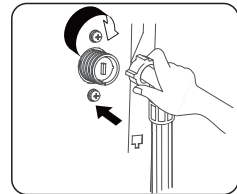

Fig. 21
- Insert the filter into the valve and tighten up the inlet hose (Fig. 21).